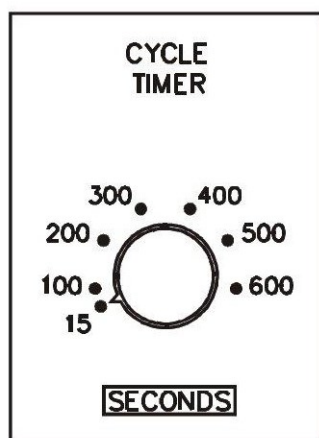

Figure 5-7-1
The Spray Odor Control system is housed in a cabinet mounted on the ClearAir Unit (refer to Figure 5-6-1). The major components are a spray nozzle, air compressor, timers and a 5 gallon tank to hold the Spray Odor solution. The compressor pulls the solution up through the pick-up tube in the tank by creating a vacuum, and then pushes it out through an atomizing nozzle into the plenum after the Final Filters. The spray is not on constant, but is timed on and off, the length of time on dependent upon the amount of odor created by the cooking process. There are two (2) timers, one (1) for the “Cycle Timer” (this is the spray “OFF” timer) and one (1) for the “Spray Timer” (this is the spray “ON” timer) (Refer to Figures 5-7-1 and 5-7-2). Both timers are calibrated and can be set between 5 and 600 seconds. The factory setting is always 15 seconds “ON” and 15 seconds “OFF”.